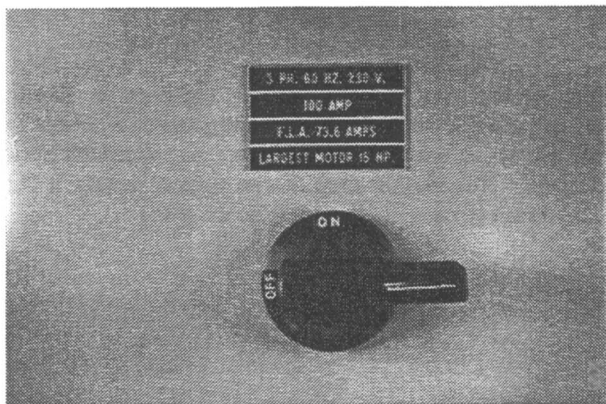

Figure 5-1
2. Turn on the main power switch at the control panel. (Figure 5-1)